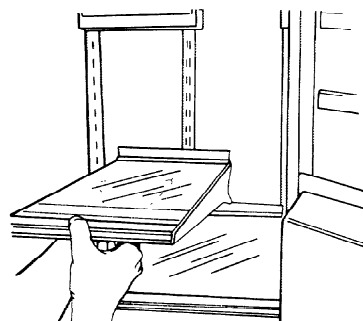

FIGURE 44
1. Tap upwards at rear of shelf near the tracks to loosen shelf hooks. See Figure 44.